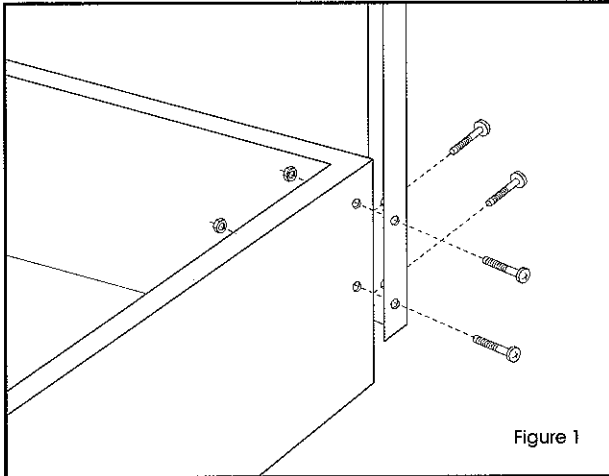

Figure 1
2. Attach legs using 4 large bolts and 4 large nuts on each leg. (See Figure 1)